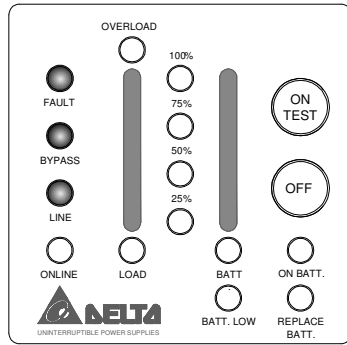

Figure 6-1 (Fault)
2. One or more additional LED load/battery level indicators will light to provide a diagnostic aid to the operator. Refer to the following table. (See Figure 6-1.)